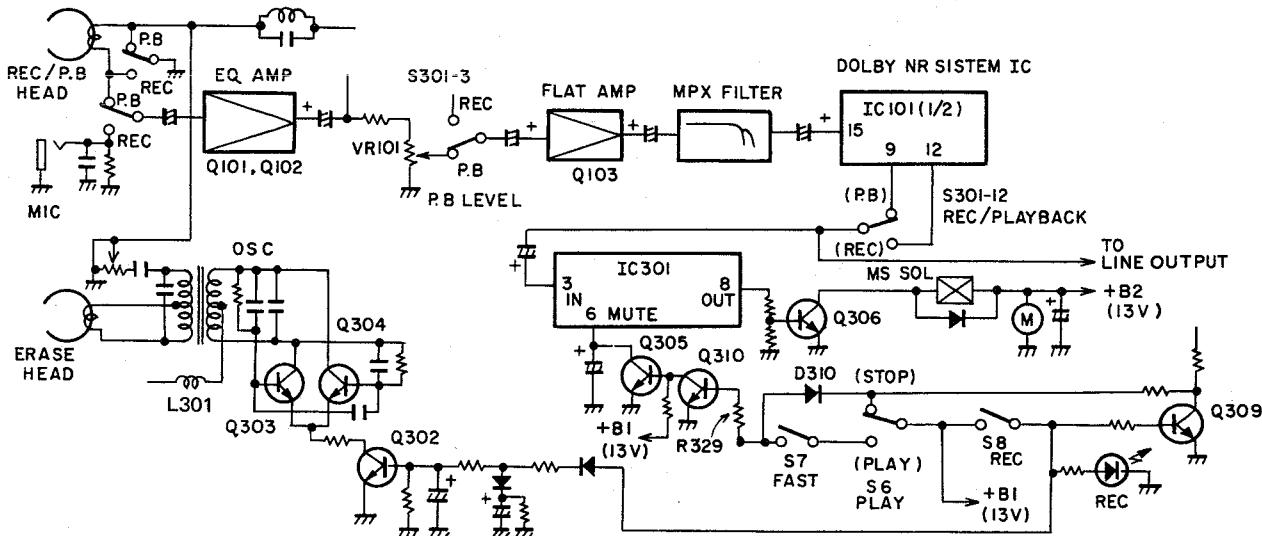

Fig. 6-2 MS operation
6.4 MUSIC SEARCH (MS) OPERATION (Refer to Fig. 6-2 and 6-3)